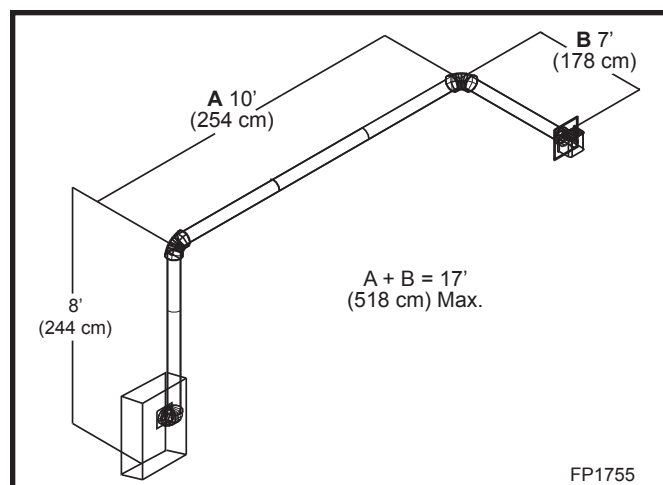

Fig. 21 Maximum vent run with elbows.
- If a 90° elbow is used in the horizontal vent run (level height maintained) the maximum horizontal vent length is reduced by 36" (914 mm). This does not apply if the 90° elbows are used to increase or redirect a vertical rise. (Fig. 21)
Example: According to the vent graph (Page 11) the maximum horizontal vent length in a system with a 7.5' (2.3 m) vertical rise is 20' (6 m) and if a 90° elbow is required in the horizontal vent it must be reduced to 17' (5.2 m). In Figure 21 Dimension A plus B must not be greater than 17' (5.2 m).
In Figure 21, dimension A plus B must not be greater than 17' (5.2 m).